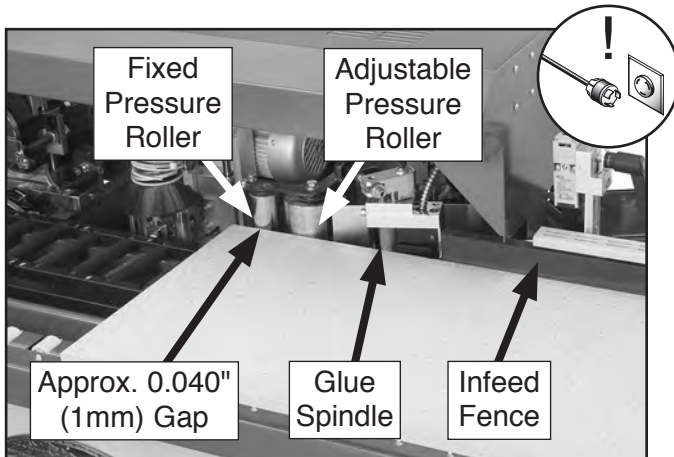

Figure 97. Workpiece placed against infeed fence and pressure roller unit.
6. Push workpiece against adjustable pressure roller, toward back of machine, until workpiece contacts both pressure rollers and entire fence along its length (see **Figure 97**). Because adjustable pressure roller is spring-loaded, this should require moderate force.